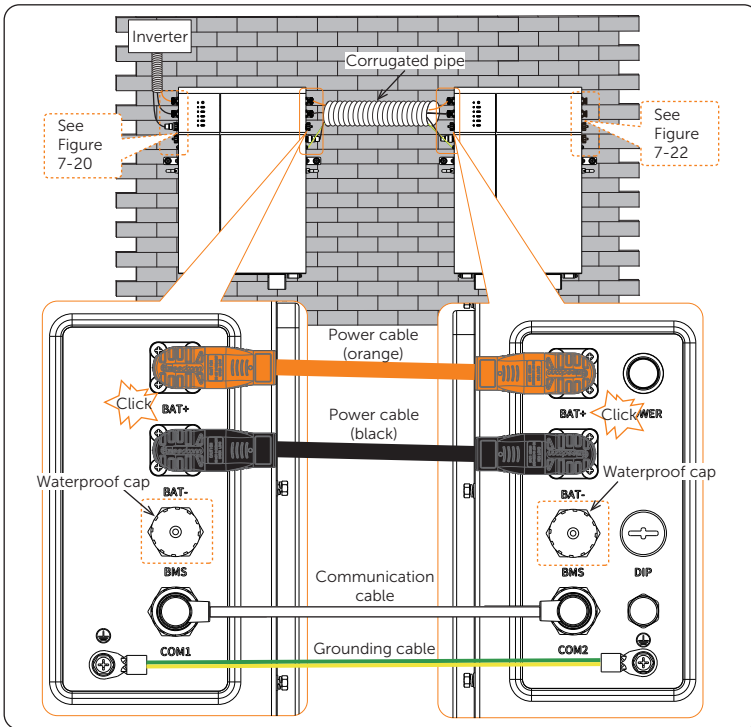

Figure 7-21 Cable connection between adjacent battery pack
- Make sure that power cables and communication cable are wired correctly, as shown in Figure 7-21. Failing to do so may cause severe damage to your battery pack.